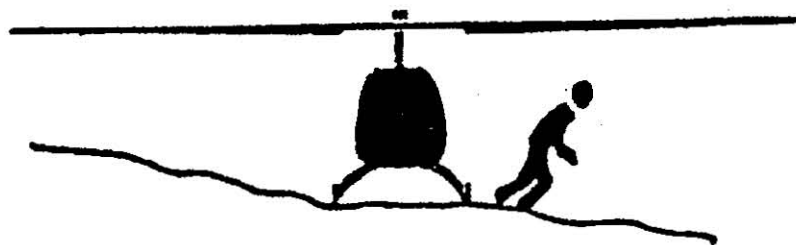

FIGURE 6. DEPARTING DOWNHILL
(1) Never to unbuckle seatbelts in preparation for departing the helicopter until told to do so.
(2) Never to open any door (passenger or cargo) unless directed to do so by the pilot or another crewmember.
(3) Never to remove personal gear until instructed to do so.
(4) To use caution when removing cargo from a helicopter so that the restraining devices do not become tangled in the main or tail rotors.
(5) To depart downhill if the landing site is on a hill and always walk around the front of the helicopter, never the rear, when walking around the helicopter to avoid the area of lowest rotor clearance. (See figure 6.)